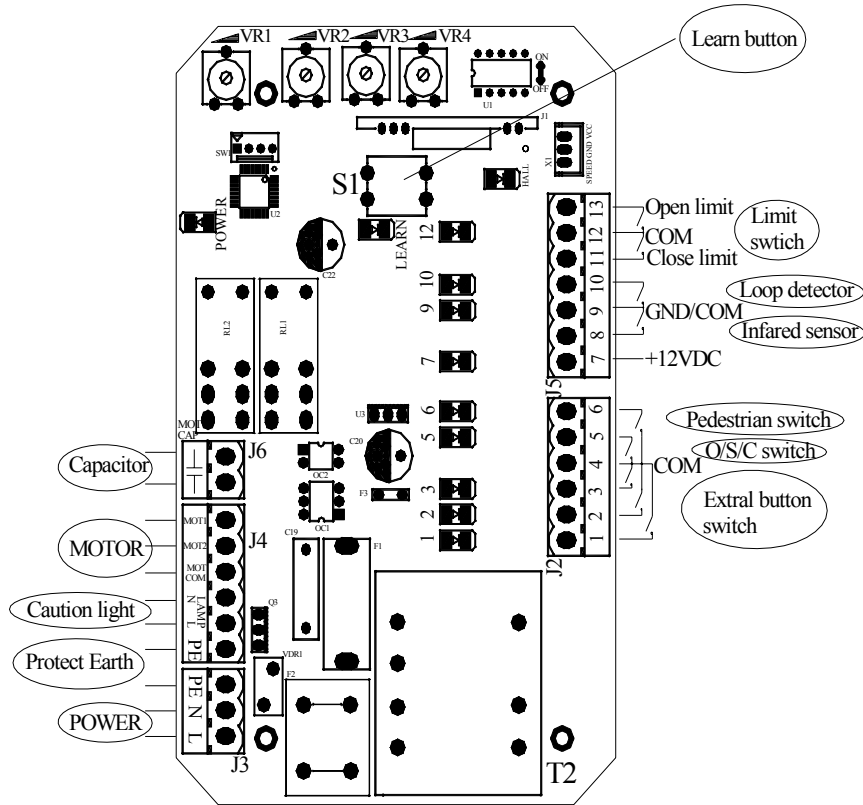

Fig.8
Remove the cover, perform the wiring (See Fig.8 and wiring notes for control board) and replace the cover again.
a. Adjust the Adjustable resistance (see Fig.8)
- Adding extra remote controls (Learn): Remove the cover, press and hold the learn button 'S1' (Fig.8) more than 2 seconds, then the 'LED of LEARN' (Fig.8) will be on, then press the remote control button which you want to use, the 'LED' will turn on about 2 seconds and then turn off again. The learning process is finished.